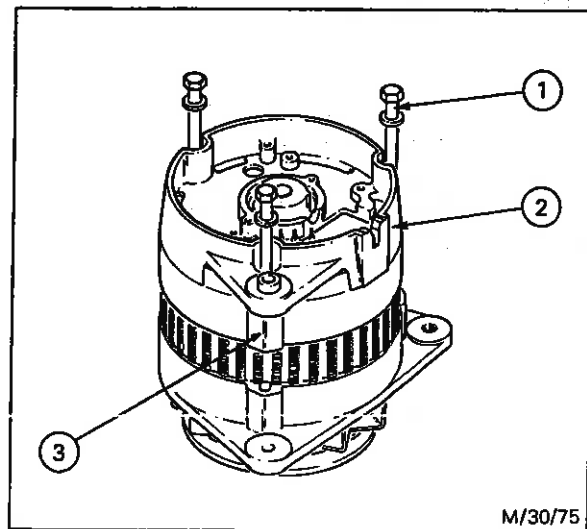

Fig. 17 - Removing Slip Ring End Bracket
1. Remove 'through bolts' (1) and detach slip ring end bracket (2). If end bracket proves difficult to remove, use a soft face mallet to tap upwards beneath each bolt housing (3) in turn - see Fig. 17.